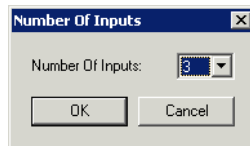

Figure 36. Dialog Number of Inputs
2. Select the new value from the **Number of Inputs** dialog as shown in Figure 36.